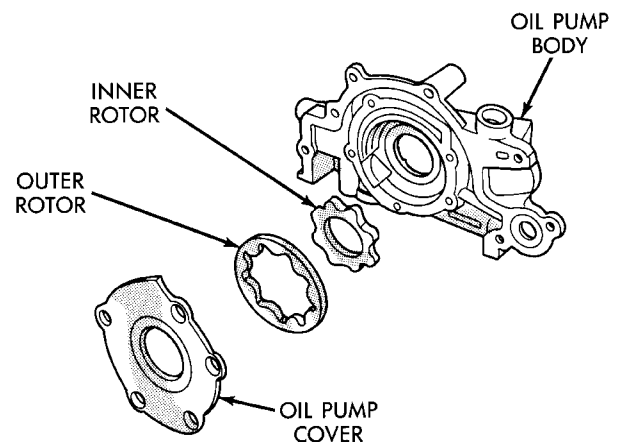

Fig. 90 Oil Pump
(4) Remove oil pump cover screws, and lift off cover.
(5) Remove pump rotors.
(6) Wash all parts in a suitable solvent and inspect carefully for damage or wear (Fig. 90).